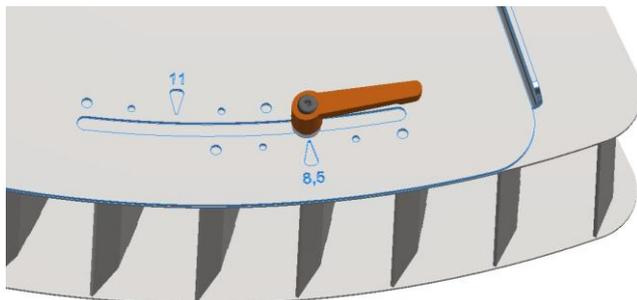

Figure 6.15 - Side border limiter
- Undo the handles - B - and slide the vane block until the right-hand handle is aligned with position 8.5 (Figure 6.15),